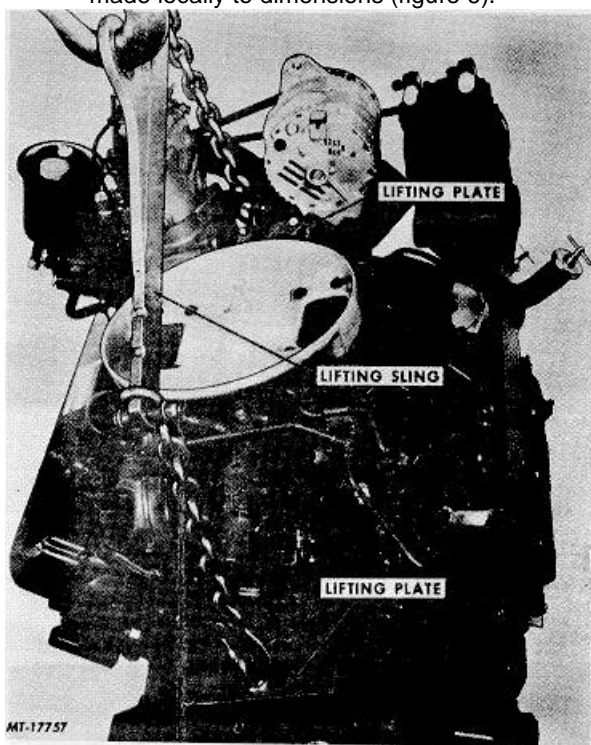
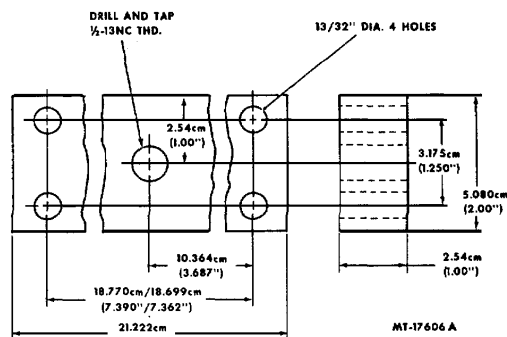

Fig. 5 Engine Lifting Sling Installation
Fig. 6 Dimensions for Making Rear Lifting Plate
14. Install engine lifting plates (Figure 5). For front of engine (thermostat housing) use lifting plate SE-2103-1. For rear of engine (flywheel housing) use lifting eye bolt SE-1899 and plate made locally to dimensions (figure 6).
15. Install engine lifting sling (Figure 5). Connect hoist to lifting sling.